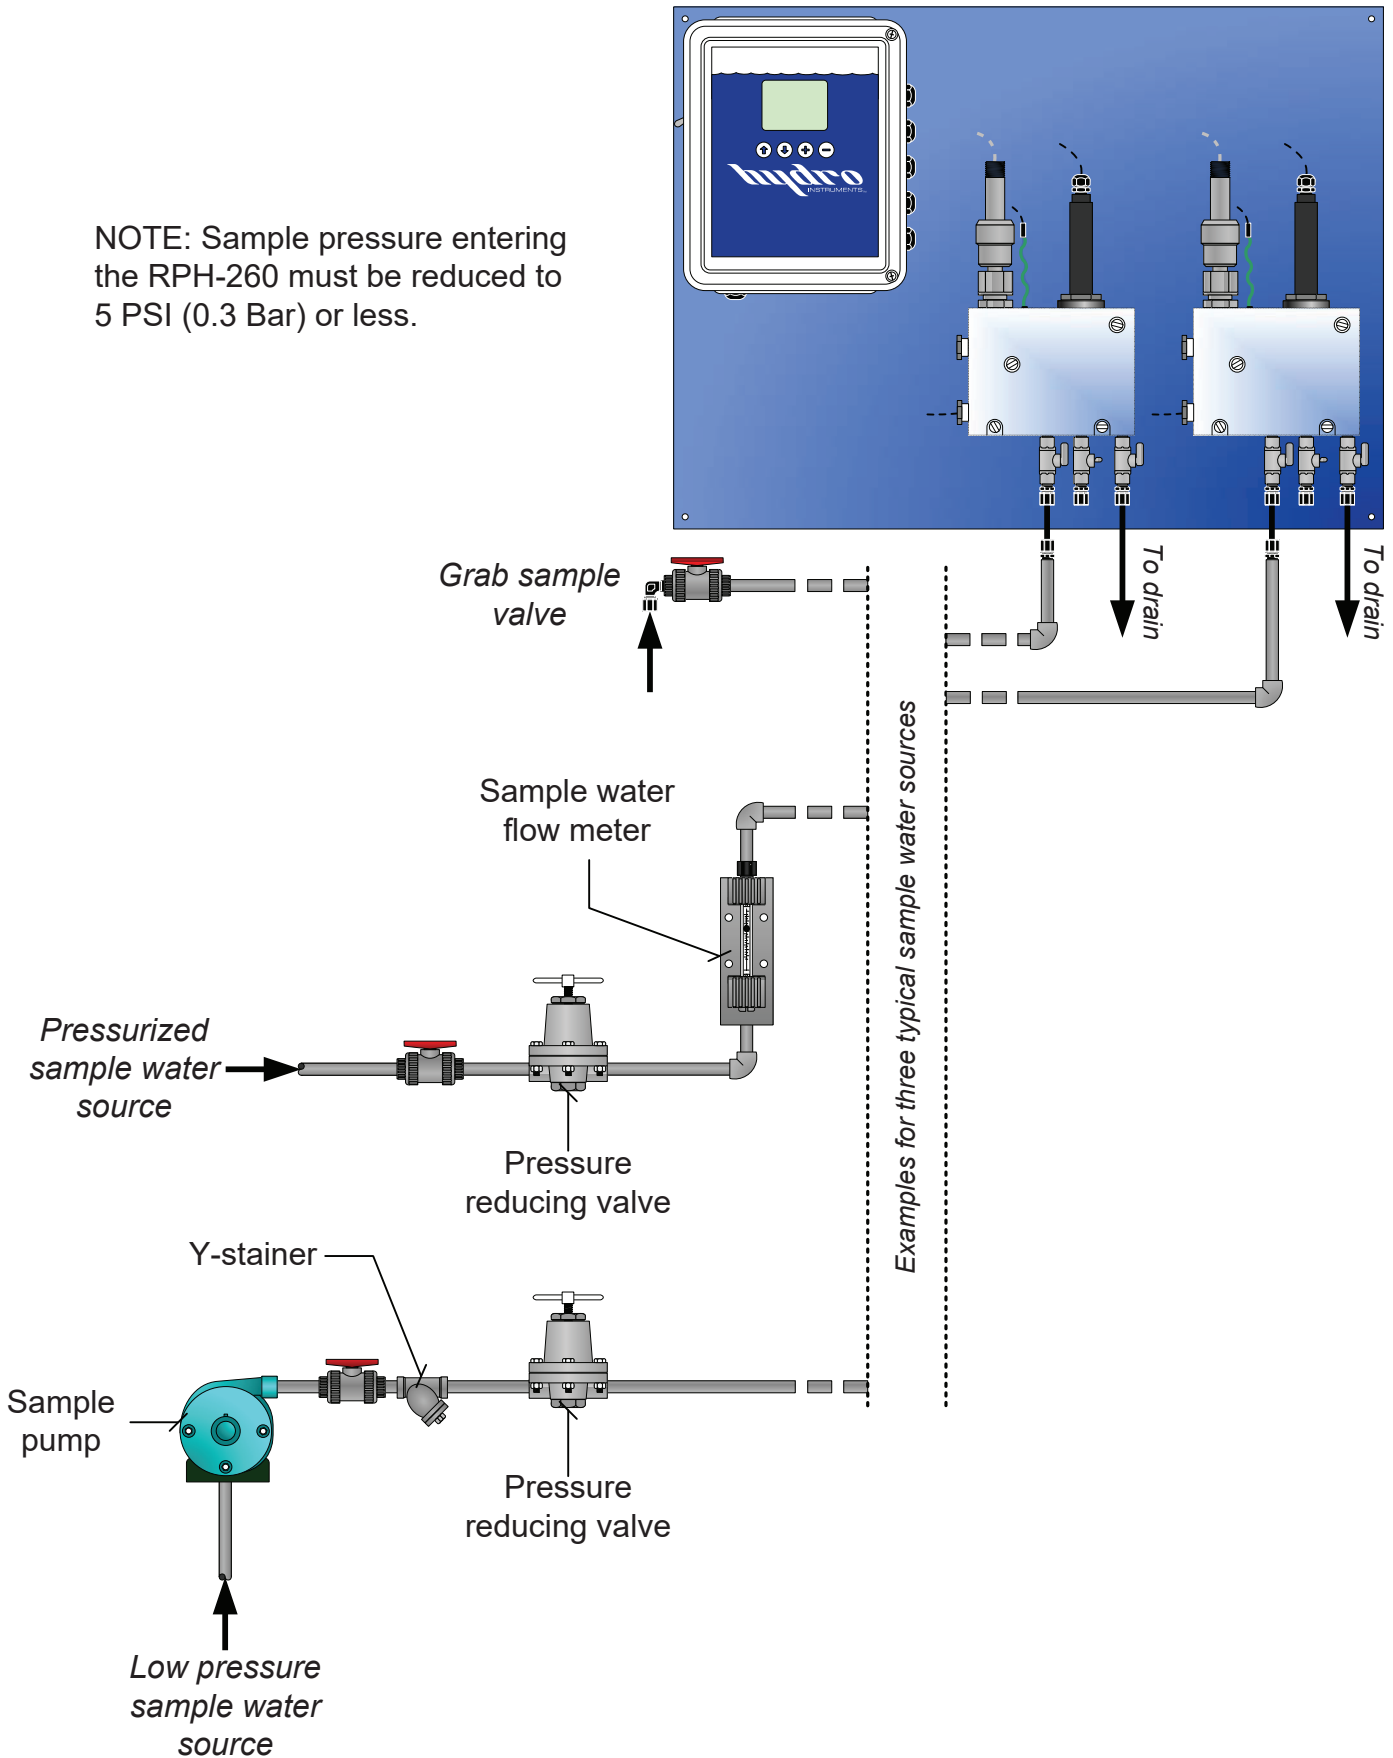

FIGURE 4
- 3. Sample Point Selection:** Consider Figure 4 for this section.